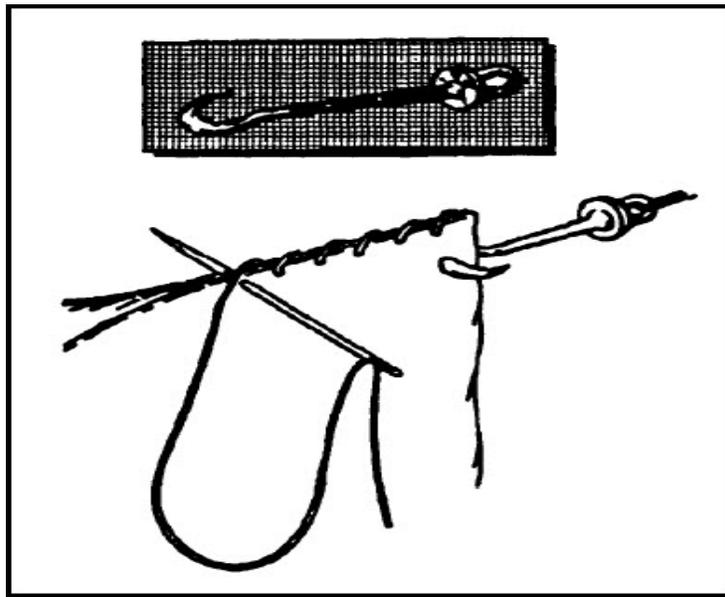

Figure 3-16 Round-stitching a canvas held by a bench hook
- Sailmaker's or bench hook. This hook (fig. 3-16) has a swivel eye. It is used to hold the ends of two pieces of canvas being sewn together, as shown in figure 3-16.
- Round stitch. The round stitch is the stitch most commonly used for joining two pieces of canvas. Turn back the edges, hold the pieces together, and send the needle through both pieces at right angles to the seam, as shown in figure 3-16.